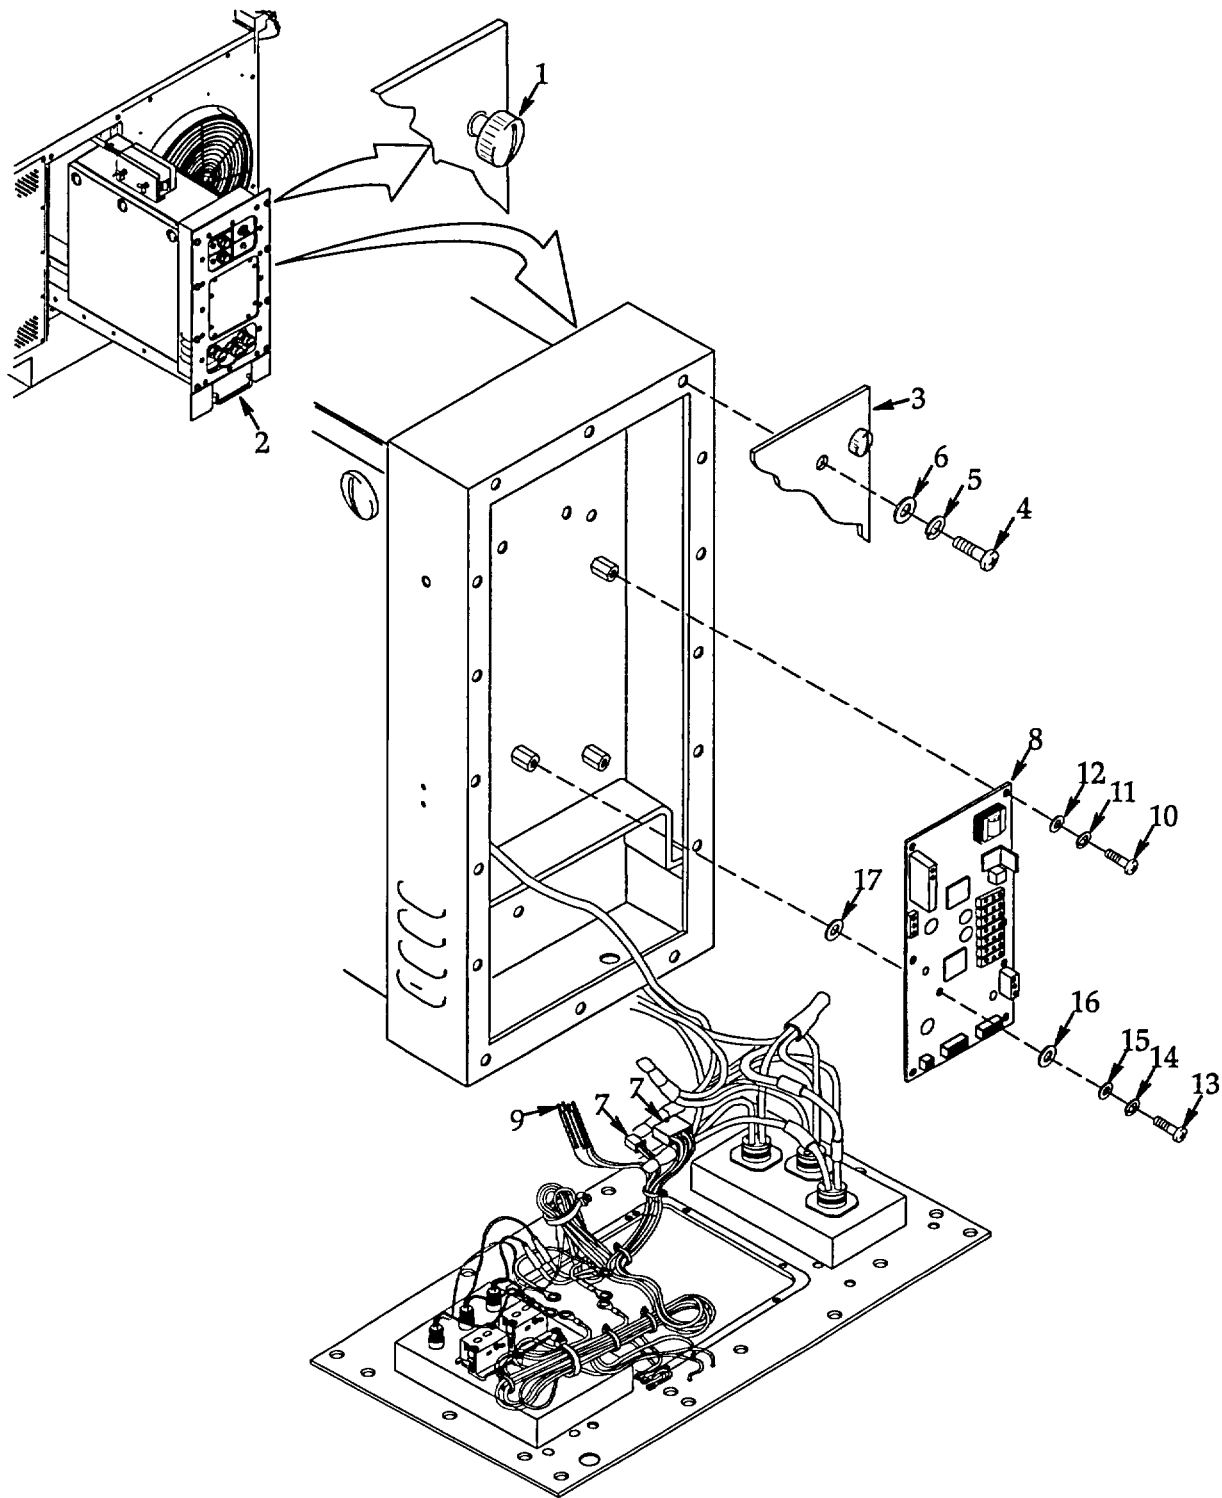

Figure 5-1. Circuit Board.
b. **Removal.** See figure 5-1.
c. **Installation.** See figure 5-1.